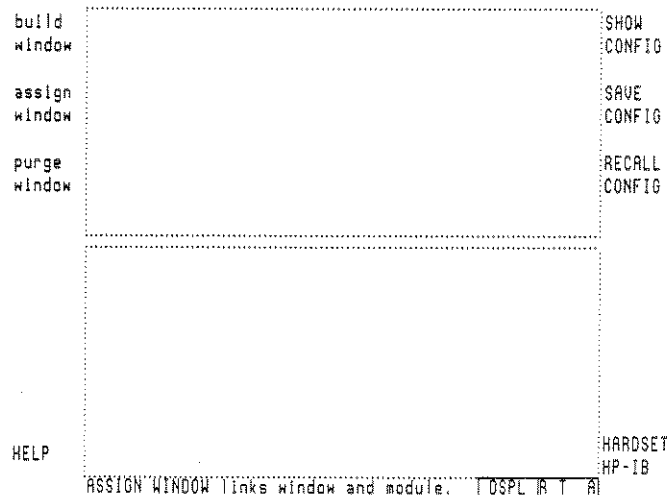

Fig. 20
2. Build two windows as in the `build window` example, leaving the screen with two blank, unassigned windows as in Figure 20. The lower window should be #1 and the upper window should be #2.